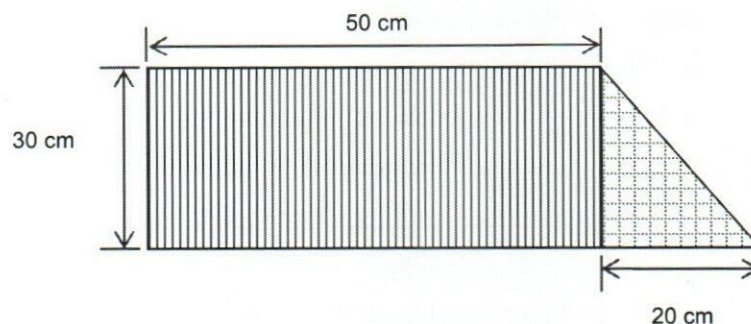

Figure Q2
- a) A plot of land given in Figure Q2, consisting of a rectangle and an adjoining triangle, is shown on a map drawn to a scale of 1 cm : 100 m. The rectangle measures 30 cm in width and 50 cm in length, and the sides of the triangle measure 30 cm and 20 cm on the map. A new map is to be drawn using a scale of 1 cm : 150 m. What will be the area of the same plot of land on the new map?